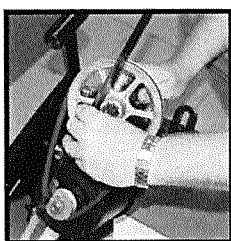
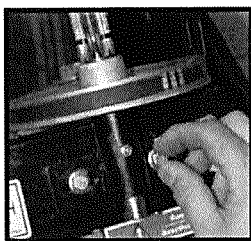

Fig.21: Use a ruler as a guide to belt adjustment.
Fig.22: Finger tighten bolts on adjustment plate for a rough setting of belt adjustment.
- a. Place a ruler across both pulleys. Adjust belt placement by using the jackshaft mounting plate, shifting the plate until both pulleys are flush and aligned to ruler. (Fig.21) Finger tighten bolts on the adjustment plate. (Fig.22)